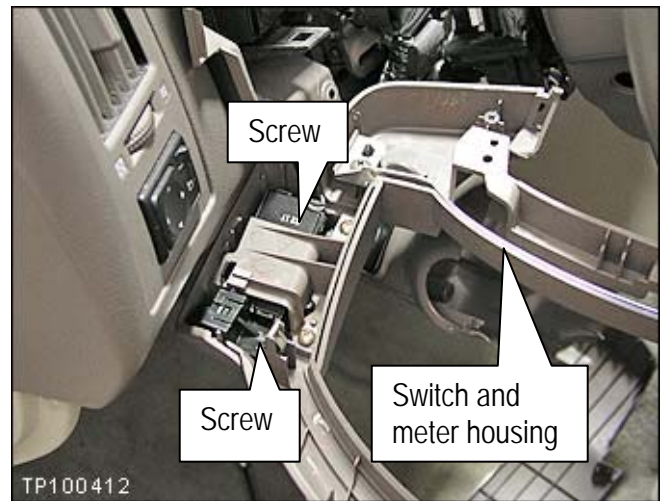

Figure 9
a. Remove the 2 screws shown in Figure 9.